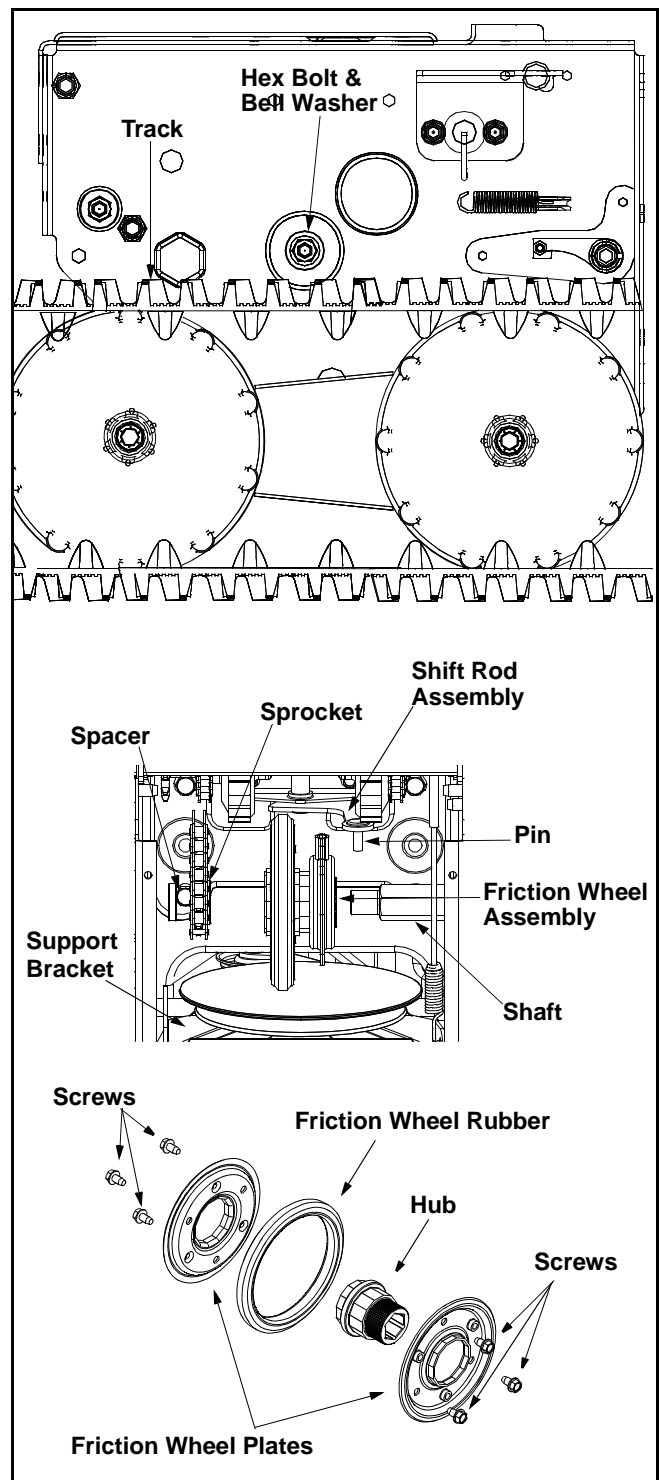

Figure 16
- Using a 7/8" wrench to hold the shaft, loosen, but do not completely remove, the hex bolt and bell washer on the left end of gear shaft. See Figure 16.
- Move the gear shaft to the right and slide the friction wheel assembly from the shaft. See Figure 16.
- Remove the six screws from the friction wheel assembly (three from each side). Remove the friction wheel rubber from between the friction wheel plates. See Figure 16.